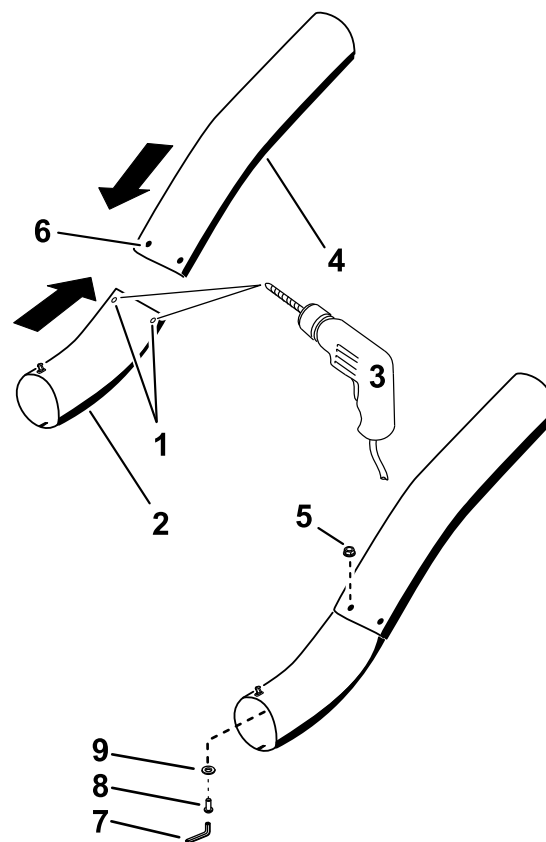

Figure 23
12. Using the existing holes in the upper tube as a template, drill 2 holes, a 1/4 inch (6.5 mm) diameter, through the dimples on the lower tube (Figure 23).
15. Install the washers (1/4 inch) onto the bolts (Figure 23).
16. Using a hex key tool, install the screws (1/4 x 3/4 inch) and washers (1/4 inch) from the inside of the lower tube and through the existing holes in the upper tube (Figure 23).
17. Secure the tubes together with the nuts (1/4 inch) (Figure 23).